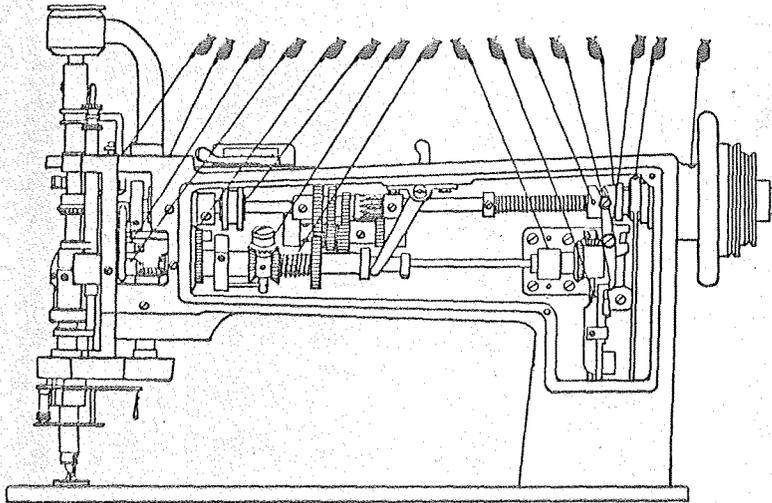
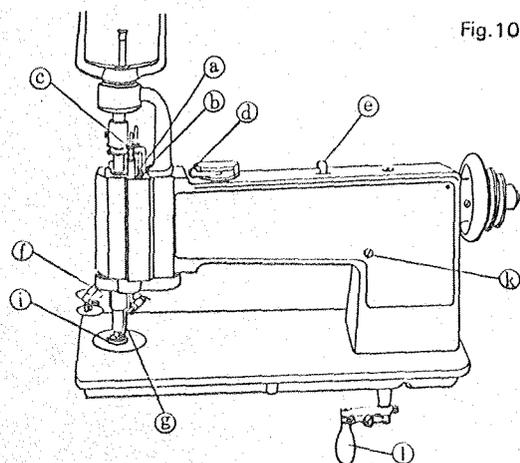

Fig.2
Fig. 10
Fig. 2 shows the arm cover removed for the purpose of oiling. This arm cover can be removed after taking out thumb screw, Fig. 10. If the machine is used continuously, oil should be applied at least once each day.
12. TO ADJUST THE LENGTH OF STITCH (Fig. 10)
The length of stitch is adjusted by screw (a), Fig. 10. To lengthen the stitch, loosen locking lever (b) and turn screw (a) over to the left or upward, then tighten locking lever (b).
13. TO REGULATE THE PRESSURE ON THE NIPPLE (Figs. 10 & 11)
The pressure on the nipple is regulated by the thumb screw (c), Fig. 10 at the top of the machine. To increase the pressure, turn this thumb screw over to the right or downward. To decrease the pressure, turn this thumb screw over to the left or upward.
16. TO ADJUST THE NUMBER OF THE BRAIDING (Fig. 10)
The number of the braiding can be adjusted by the lever ①, Fig. 10, which is located on the top of the machine frame. At the number 0, the gears do not engage and the machine will be operated as chainstitch, moss stitch or tape attaching embroidery.
17. TO ADJUST THE TENSION OF THE BRAIDING (Fig. 10)
It is the best for the normal braiding embroidery works that the braid spool bracket ①, Fig. 10 is set in the left while the handle ② is at the front.
To adjust as above, bring the handle ① to front, hold the handle by the knee as it does not turn round, then press the gear changing lever ③, Fig. 10 to the right and turn the braid spool bracket ① to the above position.
The additional adjustment will be made by the braid spool adjusting thumb nut ④, Fig. 7 and the braid leader guide ⑤, Fig. 10.
Then, set the lever ⑩, Fig. 10 to the number 1.
The looper will then be set in the opposite direction to that which is required for the chain stitch, or with the notch of the looper at the front of the needle while handle ⑰, Fig. 10 is at the front. Change the presser foot ⑱ to the presser foot (spur).